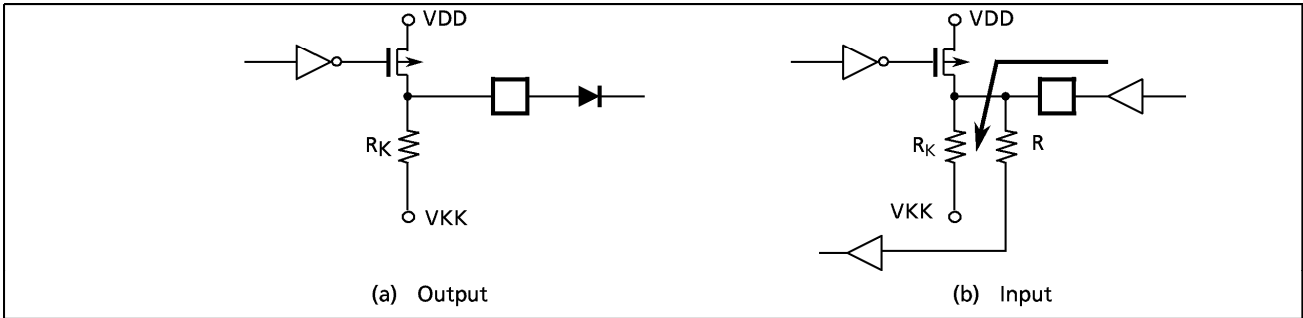

Figure 2-49. External Circuit Interface
- The pins are brought to the VKK pin voltage by the built-in pull-down resistor for “low” level output; consequently, as shown in Figure 2-49, diode grounding is necessary to prevent the VKK pin voltage being applied to the external circuitry.